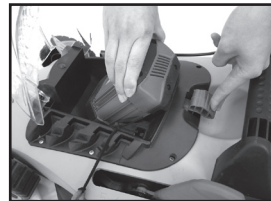

Fig. 14
1. Lift the securing latch (16) and lift and hold up the battery cover (10).
2. Remove the safety key (15).
3. Lift the securing latch (16) and remove the battery (9) (Fig. 14).